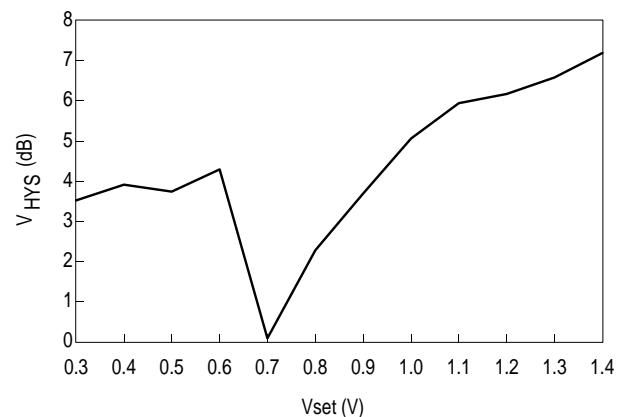

Figure 3. LOS Hysteresis (T_A = 25°C)
2. This device has an anomaly in V_{HYS} when 0.65 < V_{SET} < 0.75V. Operation in this region is not recommended. (See Figure 3)